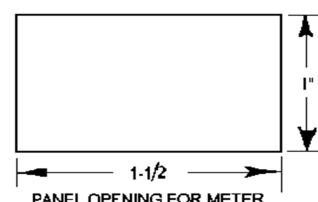

FIG. 10
3.01 REMOVE PANEL AND USING TEMPLATES IN FIG. 10 BELOW, LAYOUT SWITCH AND HOUR METER ON PANEL AND FASTEN WITH TAPE. DRILL HOLES IN PANEL AS INDICATED AND ENLARGE EACH AS FOLLOWS.
USING HOUR METER TEMPLATE FIG. 10 OR SCRIBED MARKS, DRILL FOUR HOLES 1/8TH" DIA. OR SMALLER WITHIN EACH CORNER. THEN DRILL ANY NUMBER OF LARGER HOLES WITHIN THE SCRIBED LINES UNTIL A LARGE FLAT FILE CAN ENTER. ENLARGE THE HOLE BY FILING. FILE EACH SIDE FLAT AND SQUARE WITH ADJACENT SIDE. CAUTION: DO NOT MAKE RECTANGULAR OPENING LARGER THAN SPECIFIED SINCE METER SNAPS IN AND WILL NOT HOLD UNDER VEHICLE VIBRATION IF HOLE I.D. IS OVERSIZE.